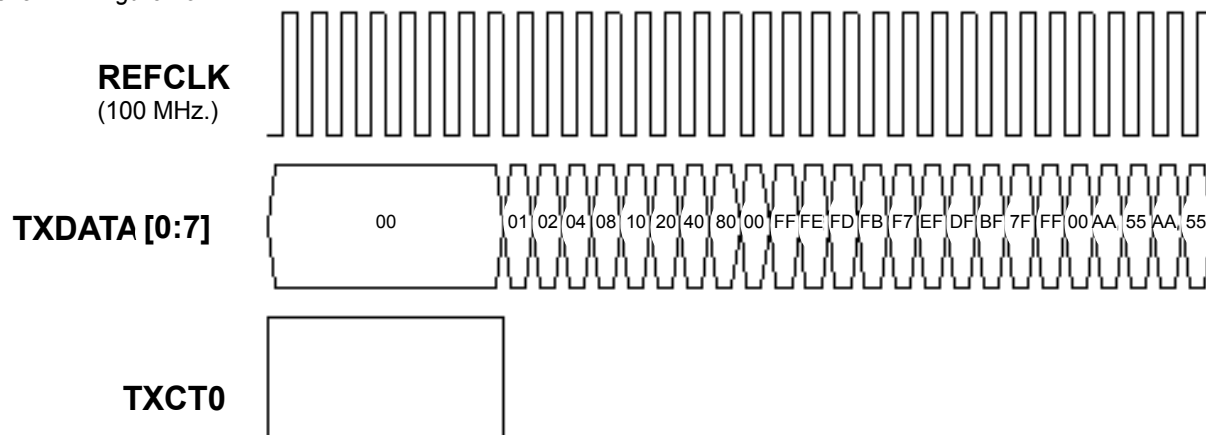

Figure 15. Generated Clock, Data and Control Signal from DG2020
1. Load the file CYP15G0101\_EVAL.PDA into the DG2020. If you are using your own data generator, use a similar waveform as shown in *Figure 15*.
14. Start transmitting the data from the DG2020. The format of the clock and the data should be as shown in *Figure 15* as seen below. Make sure that the data is generated in repeat mode.